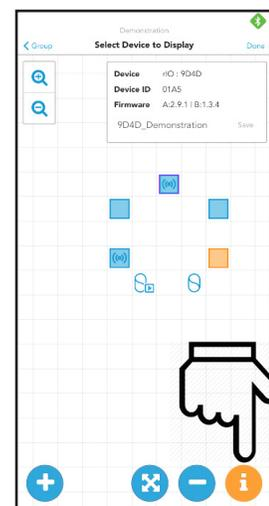

Figure 15: Moving Devices on the Grid
2. Select the "i" icon in the lower right corner of the grid (Figure 15).